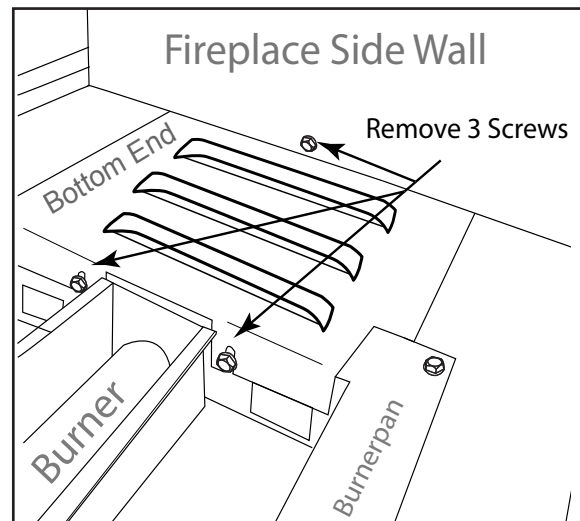

Fig. 2 Removal of burner pan screws.
**RECOMMENDATION:** Once the gas line is established it is recommended to remove the burner pan from the firebox until the fireplace is in the final stages and ready for the burner installation. Burner pan requires the removal of (4) screws at each corner of burner pan lip in addition to the (3) screws shown in Fig. 2.
**Step 1:** Remove the bottom end (it has 3 screws) from the opposite end of the burner pan. See Fig. 2.
**Step 3:** Remove the four (4) screws (two on each end) of the burner pan. They are located at the outer edge of the burner pan, one each corner (See Fig. 2).